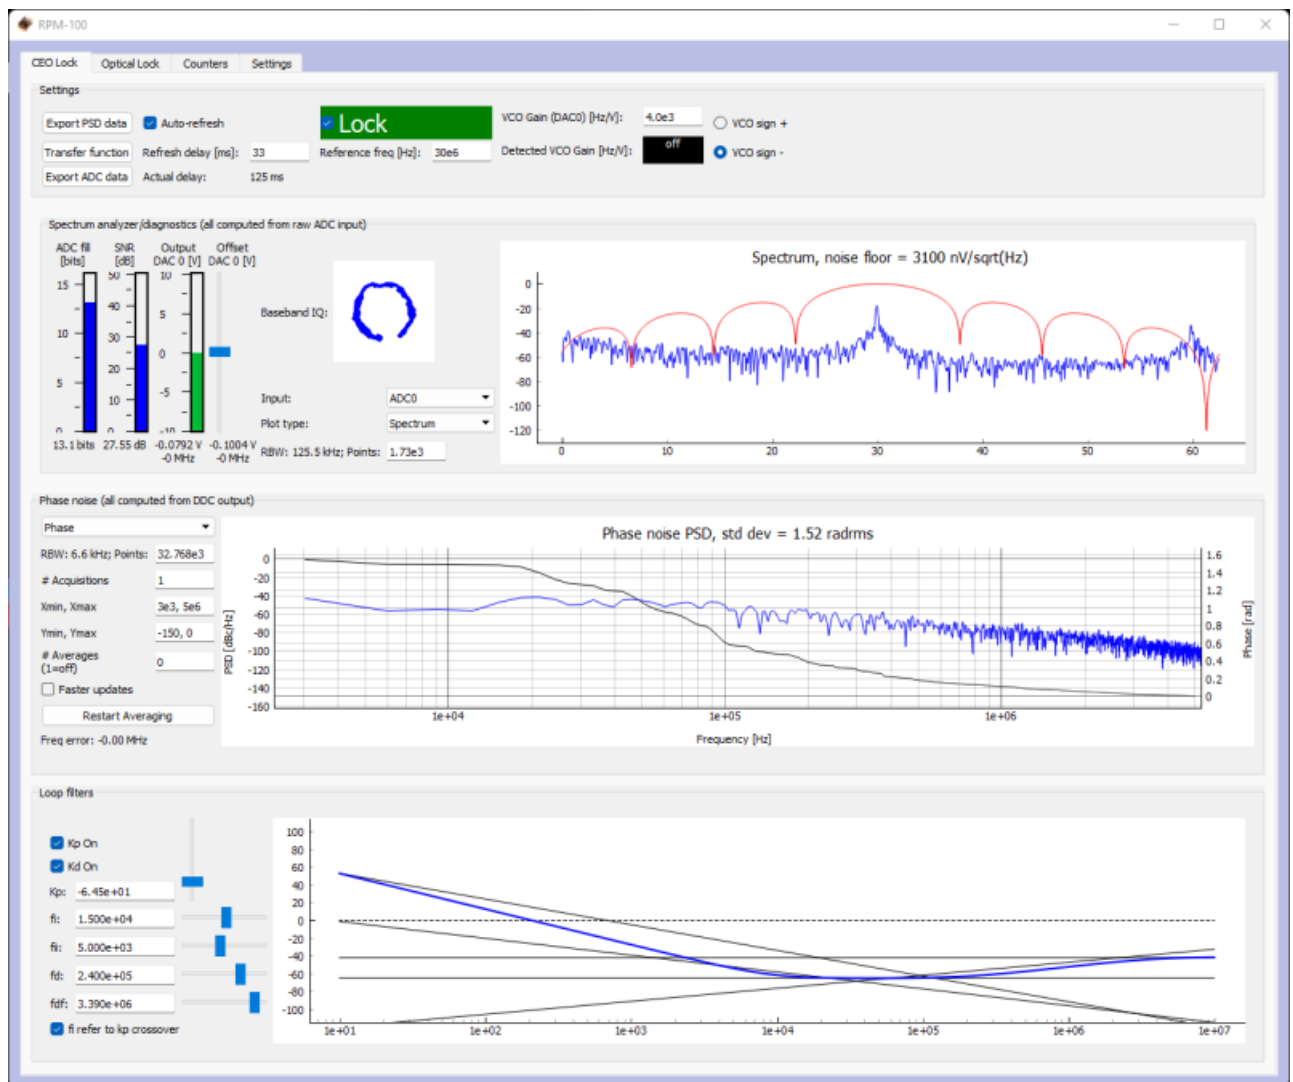

Fig. 10: Locking  $f(\text{CEO})$
2. Press the "Lock" button (figure 10, top middle). If the system doesn't lock, change the VCO sign to the opposite polarity (top right) and try again. If the system still won't lock, try lowering the  $K_p$  value (bottom left).